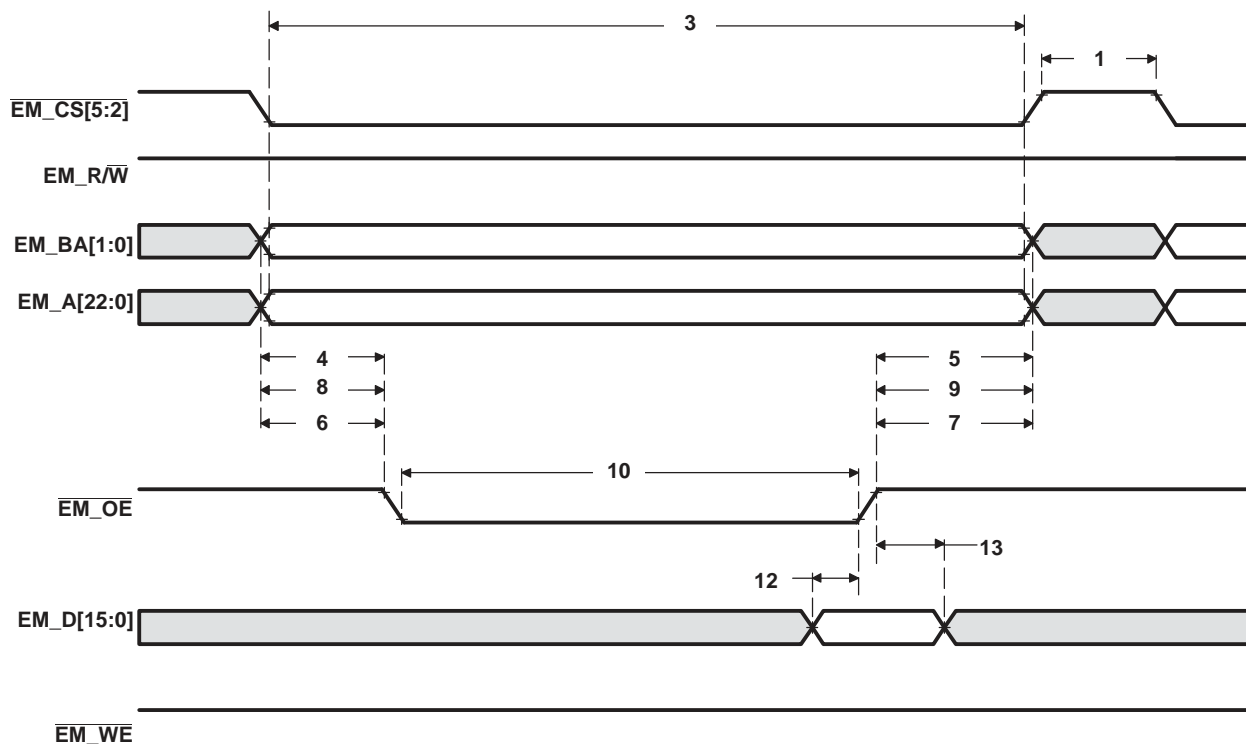
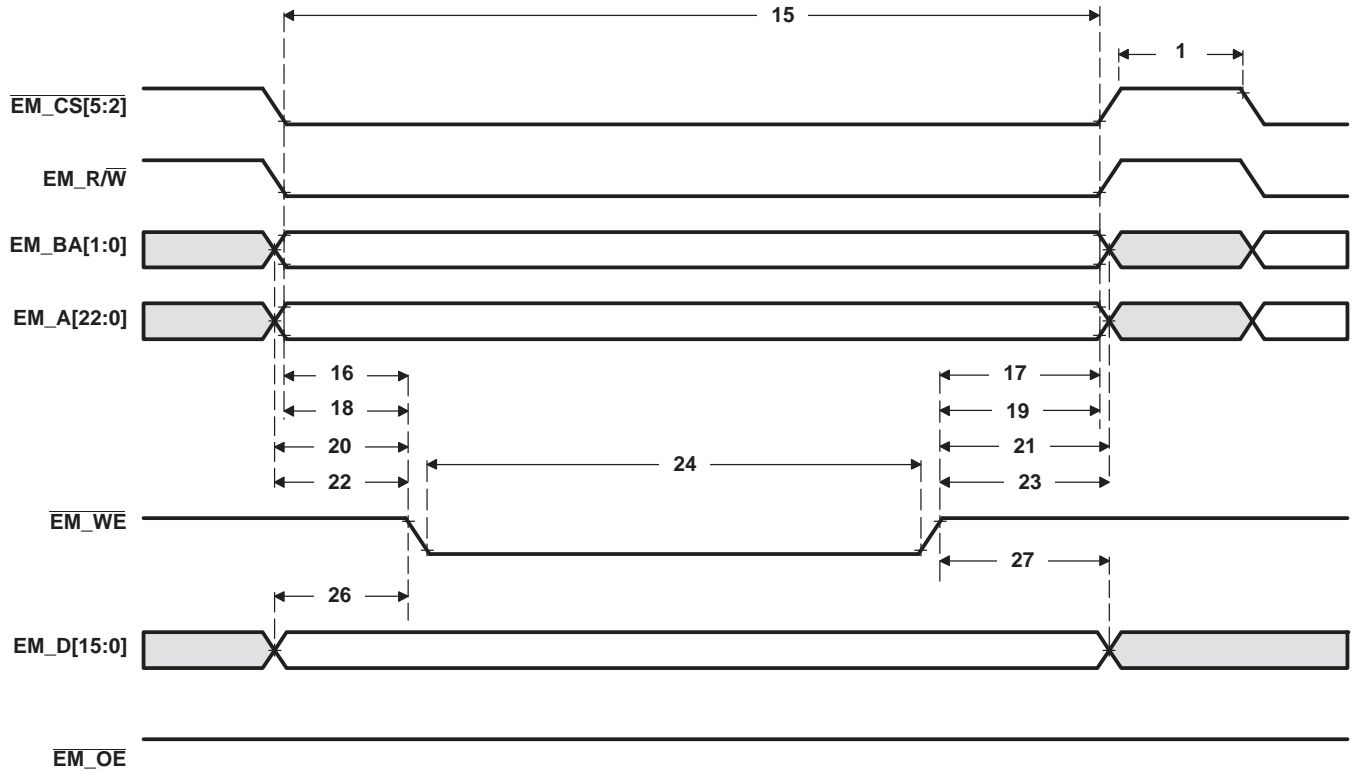

Figure 7-22. Asynchronous Memory Read Timing for EMIF
Figure 7-23. Asynchronous Memory Write Timing for EMIF
(see Figure 7-22 and Figure 7-23)
Table 7-30. Switching Characteristics Over Recommended Operating Conditions for Asynchronous Memory Cycles for EMIFA Module^{(1) (2)} (see Figure 7-22 and Figure 7-23)
(1) RS = Read setup, RST = Read Strobe, RH = Read Hold, WS = Write Setup, WST = Write Strobe, WH = Write Hold, TA = Turn Around, EW = Extend Wait mode, SS = Select Strobe mode. These parameters are programmed via the Asynchronous n Configuration and the Asynchronous Wait Cycle Configuration registers and support the following range of values: TA[0–3], RS[0–15], RST[0–63], RH[0–7], WS[0–15], WST[0–63], WH[0–7], EW[0–1], and MEWC[0–255]. For more information, see the *TMS320DM646x DMSoC Asynchronous External Memory Interface (EMIF) User's Guide* (literature number SPRUEQ7).
(2) E = SYSCLK3 period in ns for EMIFA. For example, when running the DSP CPU at 594 MHz, use E = 6.734 ns.
Table 7-30. Switching Characteristics Over Recommended Operating Conditions for Asynchronous Memory Cycles for EMIFA Module^{(1) (2)} (see Figure 7-22 and Figure 7-23) (continued)